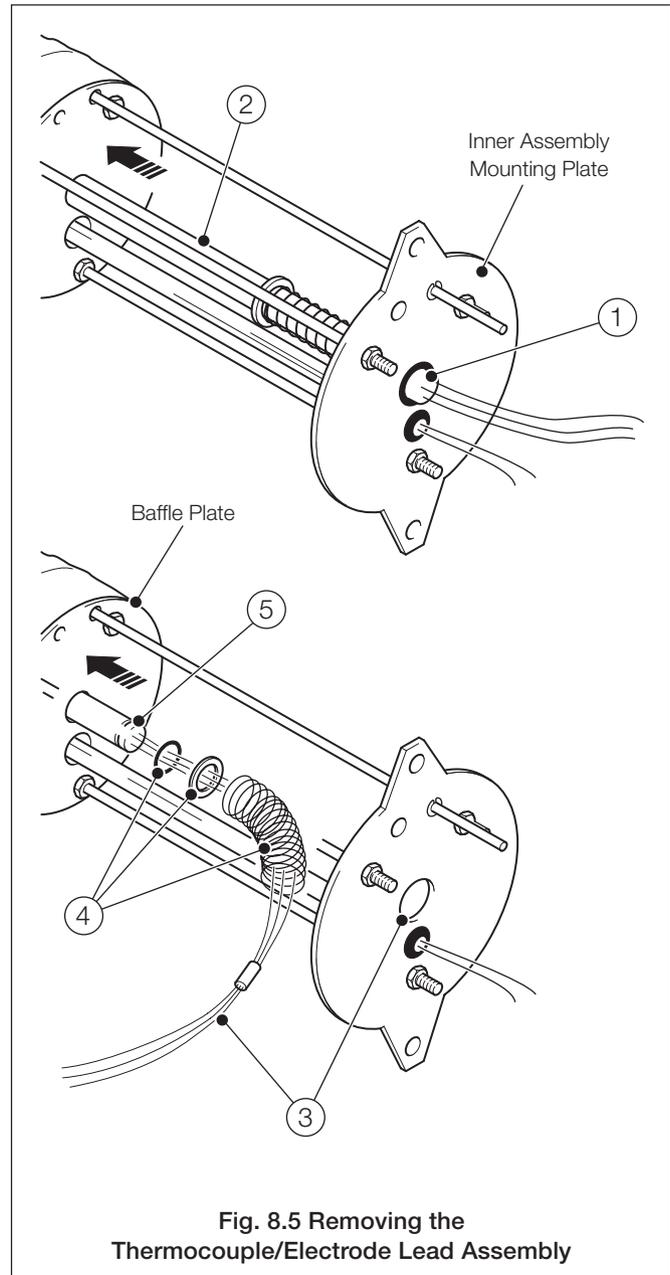

Fig. 8.5 Removing the Thermocouple/Electrode Lead Assembly
- ① Disconnect the heater leads (translucent insulation on 0.4 m probes or brown and blue on 1.0 m, 1.5 m and 2.0 m probes).
- ② Disconnect the thermocouple and electrode leads (red, blue and white insulation).
- ③ Remove the two M4 pillars and shakeproof washers securing the inner assembly and retain.
- ④ Carefully withdraw the inner assembly from the probe body.
8.6 Removing the Thermocouple/Electrode Lead Assembly (0.4m Probes) – Fig. 8.5
Referring to Fig. 8.5:
Carry out the procedure detailed in Section 8.6, Fig 8.5 on page 20, noting the following: